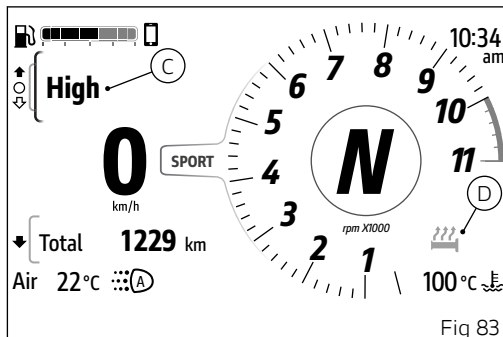

Fig 83
Window (C, Fig 83) is displayed for adjusting the handgrip heating; here the 4 available levels (High, Medium, Low, Off) and the "Back" item are listed. Use buttons (1) and (2) to scroll through the available levels. Press the ENTER button (3) to confirm the selected level. To close the window, select the "Back" item and press the ENTER (3) button, or press and hold button (1).
Each level is associated with an icon (D, Fig 83), displayed in grey when heating is off. When the heating is activated, the icon turns black if the display is in "day" mode and white if the display is in "night" mode.